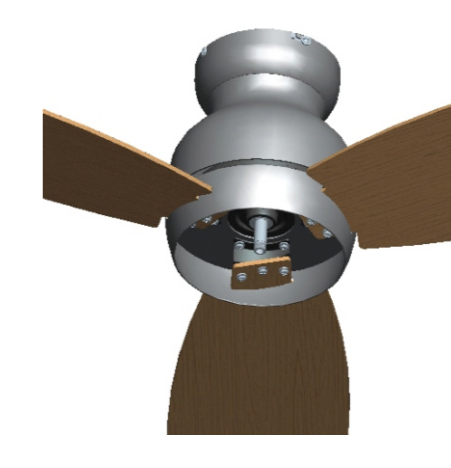

Fig 4.2
4.2 Repeat for the remaining blades. The installation of the blades is shown in the Fig 4.2.